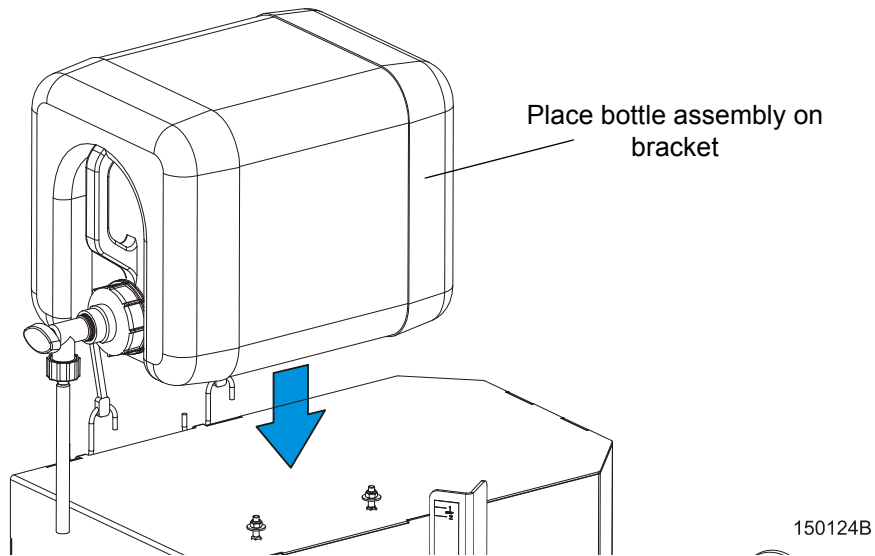

FIG. 3-22
**See Figure 3-22.** Install the water bottle bracket at the top of the saw head mast (if the bracket was